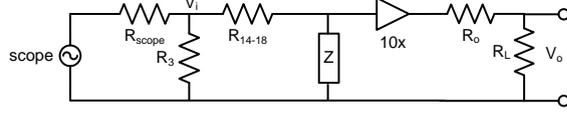

Figure 3: RF Transimpedance Measurement Setup.
- The transimpedance can be estimated by measuring the transfer function between the Test Input (see figure 1) and the RF output, as in figure 3: